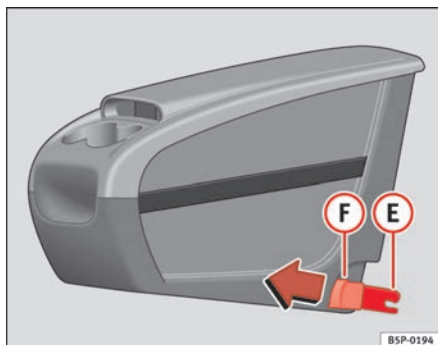
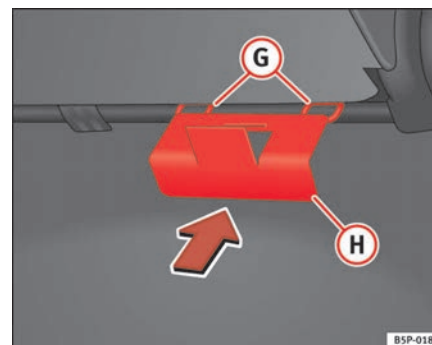

Fig. 112 Mobile stowage compartment Installation
Fig. 113 Mobile stowage compartment mounting plate
- Fit the mobile stowage compartment mounting plate ⑧ ⇒ fig. 113 from the inside of the vehicle, through the rear section of the seat. It should be fitted between the back rest and the seat, in the central seat area.
- Set both mounting pieces together (E) ⇒ page 143, fig. 112, with both mounting rings (G) ⇒ page 143, fig. 113 and press hard until both the clips completely connect with the rings.
- Pull each of the buttons ⇒ page 143, fig. 112 (F) on the clips (red buttons) forwards, until they snap out of place.